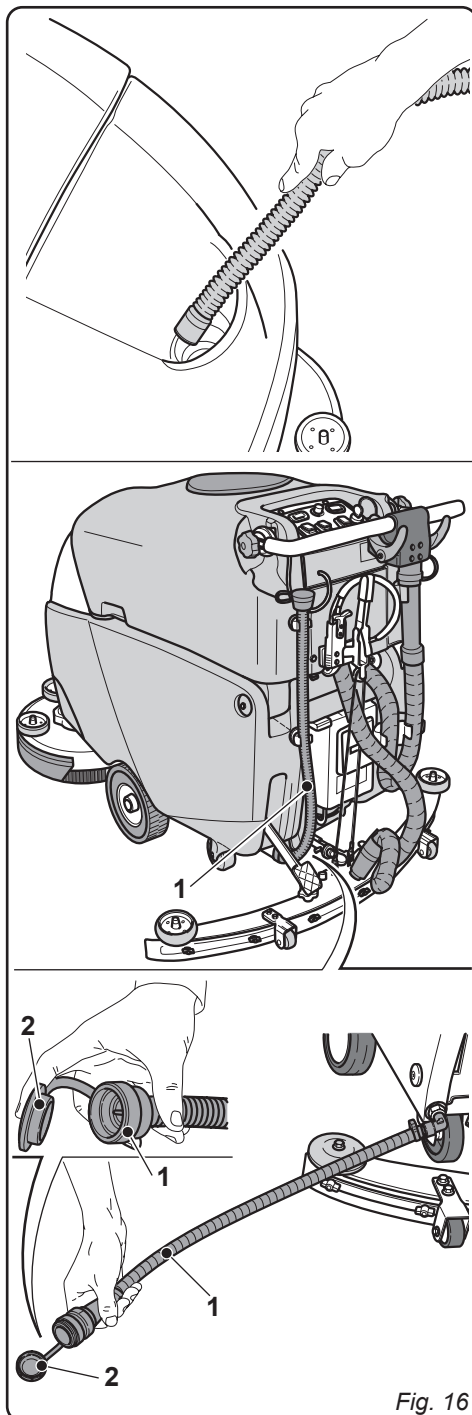

Fig. 16
10.1.a - Emptying and cleaning the clean water tank (Fig. 16)